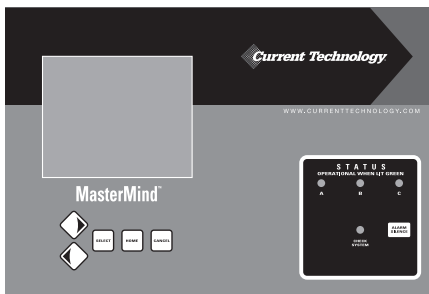

Figure 13: PX3 with MasterMind® Advanced Monitoring
► If your PX3 is equipped with the MasterMind® Advanced Monitoring Option (see Figure 13)